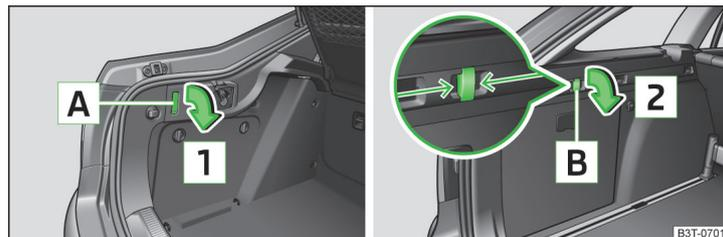

Fig. 101 Folding hooks: Superb / Superb Combi
- Superb: Press on the lower portion of the hook **A** and fold down in the direction of the arrow **1** » Fig. 101.
- Superb Combi: Take hold of hook **B** in the area of the arrow **2** » Fig. 101.